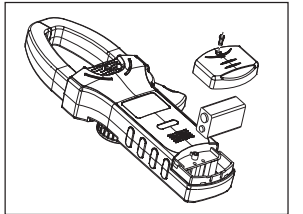

Figure 12
**B. Replacing the Battery** (See Figure 12)**Warning**